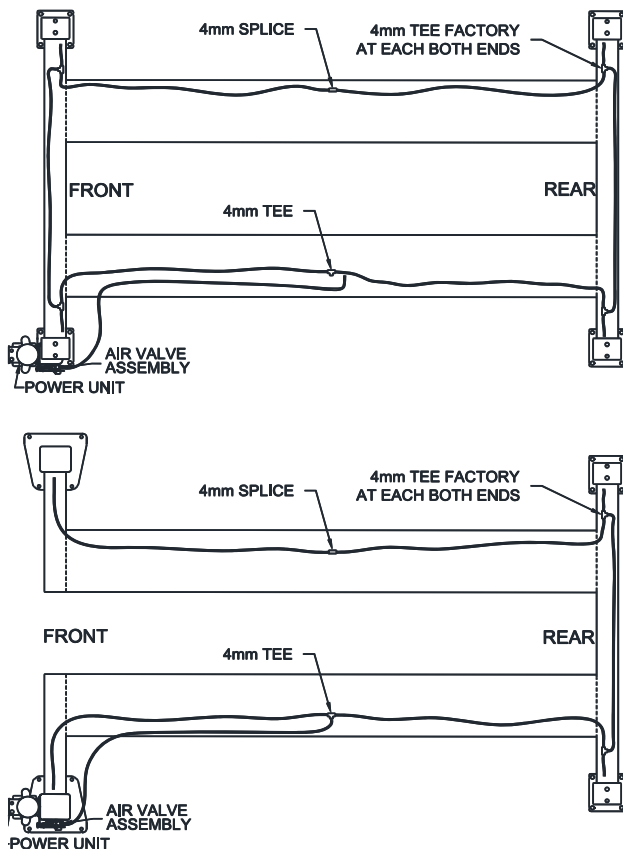

Fig 23 – Lock Release Air Line Routing
58) Install 4mm air line from air valve assembly thru opening in runway to Tee. See **Fig 23**